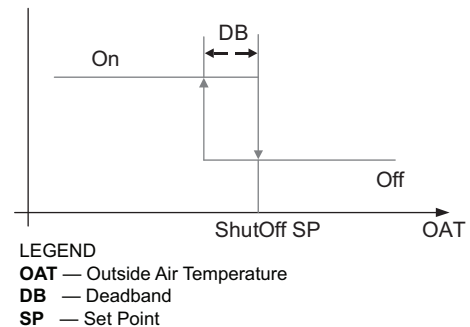

Fig. 78 — Hysteresis Settings
Hysteresis setting (DB) defaults to 2°F (–17°C). See Fig. 78.